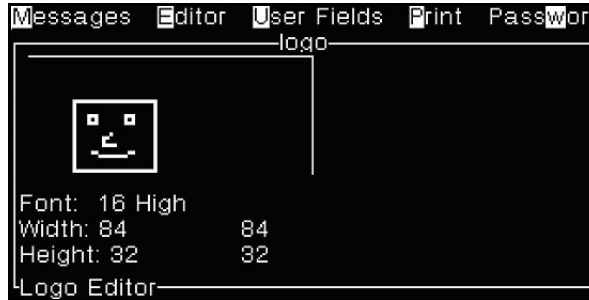

Figure 5-50: Crop Logo
- 1 Press the *Enter* key and a frame appears that shows the current boundaries of the graphic (see Figure 5-50).